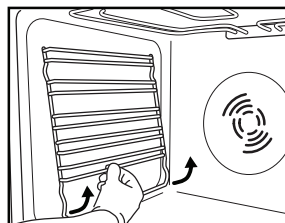

Fig. 3
1. Remove the side accessory holder grilles (Fig. 3).